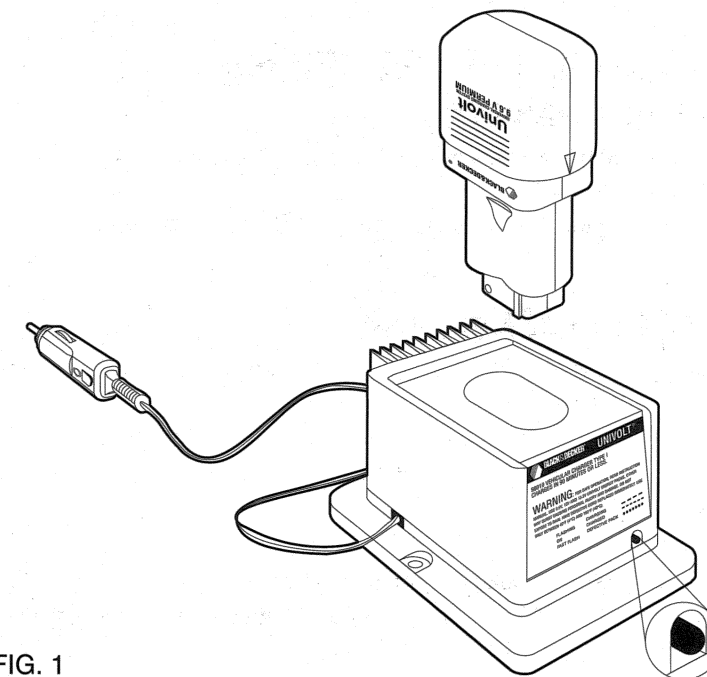

FIG. 1
2. Place the energy pack in the charger as shown in Figure 1.